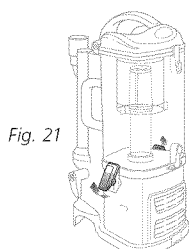

Fig. 21
- 1 Undo the latches on the sides of the dust cup by lifting them up and outwards to remove the dust cup from the motor base. (Fig. 21)